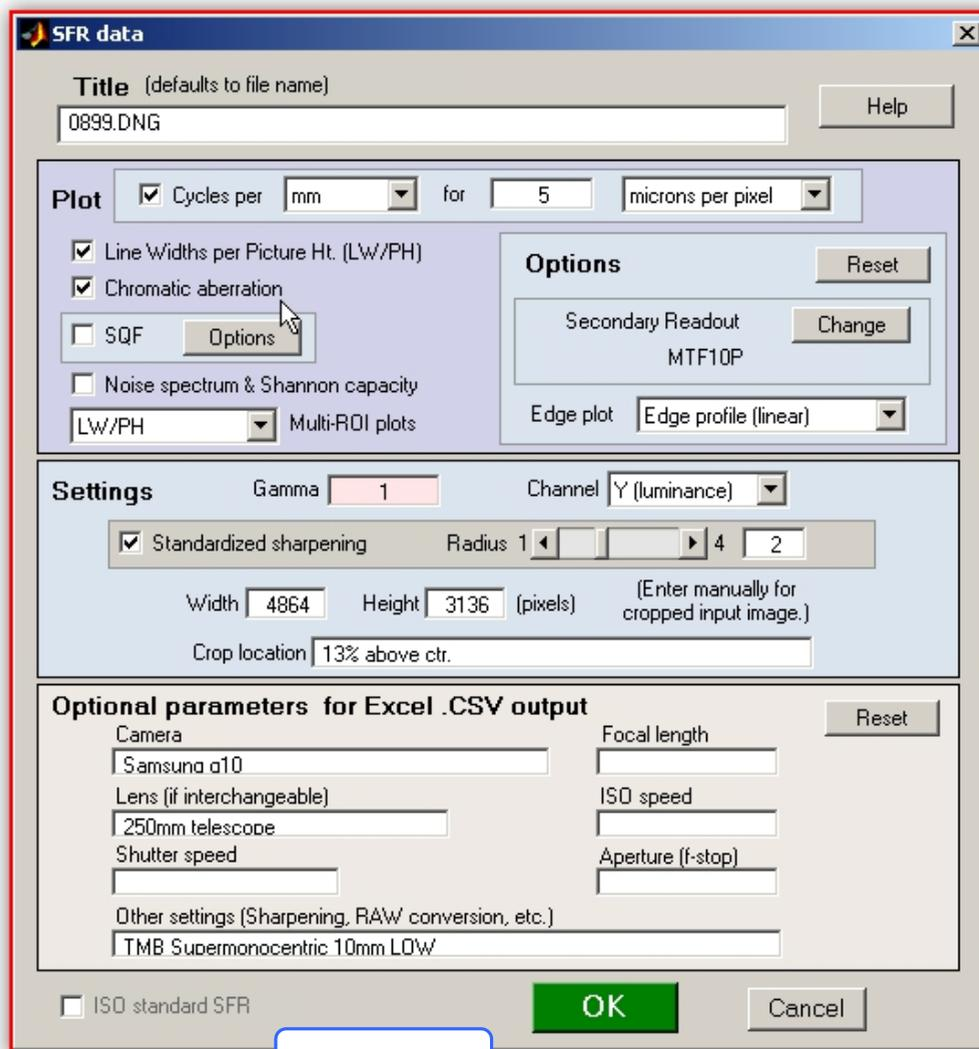

Fig. 13
6) In next window, we must introduce some data (Fig. 13):